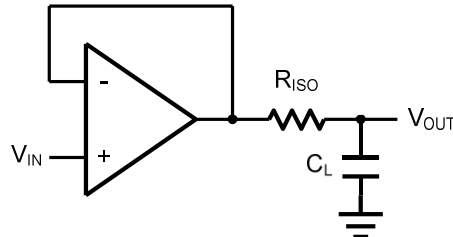
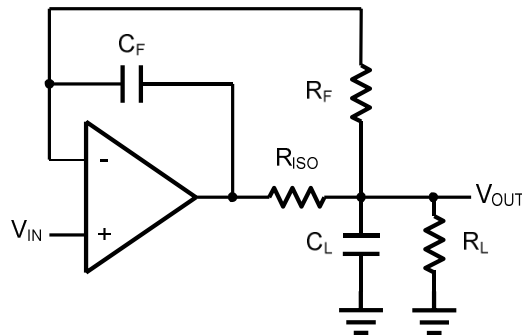

Figure 2. Indirectly Driving a Capacitive Load Using Isolation Resistor
Figure 3. Indirectly Driving a Capacitive Load with DC Accuracy
The HGV602X family is optimized for bandwidth and speed, not for driving capacitive loads. Output capacitance will create a pole in the amplifier's feedback path, leading to excessive peaking and potential oscillation. If dealing with load capacitance is a requirement of the application, the two strategies to consider are (1) using a small resistor in series with the amplifier's output and the load capacitance and (2) reducing the bandwidth of the amplifier's feedback loop by increasing the overall noise gain. Figure 2. shows a unity gain follower using the series resistor strategy. The resistor isolates the output from the capacitance and, more importantly, creates a zero in the feedback path that compensates for the pole created by the output capacitance.
The circuit in Figure 3 is an improvement to the one in Figure 2. R_F provides the DC accuracy by feed-forward the V_{IN} to R_L. C_F and R_{ISO} serve to counteract the loss of phase margin by feeding the high frequency component of the output signal back to the amplifier's inverting input, thereby preserving the phase margin in the overall feedback loop. Capacitive drive can be increased by increasing the value of C_F. This in turn will slow down the pulse response.